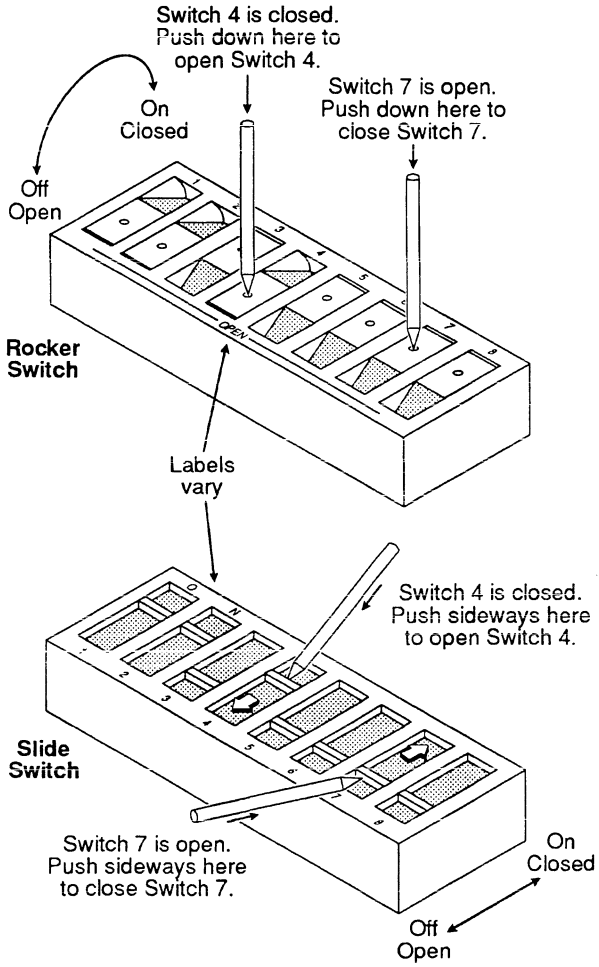

Figure 8. How to set DIP switches
You may encounter two types of switches (see Figure 8). Rocker switches are actuated by pressing one end of the actuator or the other (rocking it) to turn the switch on (closed) or off (open). Slide switches are actuated by sliding the actuator one way or the other to turn the switch on or off. Use a slender ball point pen, a straightened paper clip, or any similar object to change switch settings. Do not use a lead pencil point as it may break off and lodge in the switch or cause the switch to malfunction. Do not set switches when power is applied to the unit.
- Figure 8—shows DIP switches, with instructions on setting them to either the open (off) or the closed (on) position.